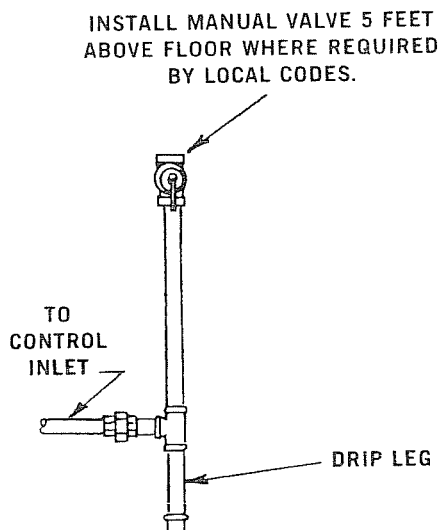

Figure 1
**CONNECT GAS SERVICE** from meter to control assembly in accordance with ANSI Z223.1 and local codes or utility. A ground joint union should be installed for easy removal of gas control for servicing. A drip leg or trap should be installed at the bottom of a vertical section of piping at the inlet to the boiler. A pipe compound resistant to the action of liquefied petroleum gases must be used on all threaded pipe connections. Check with the local utility for location of manual shutoff valve if required. Fig. 1.